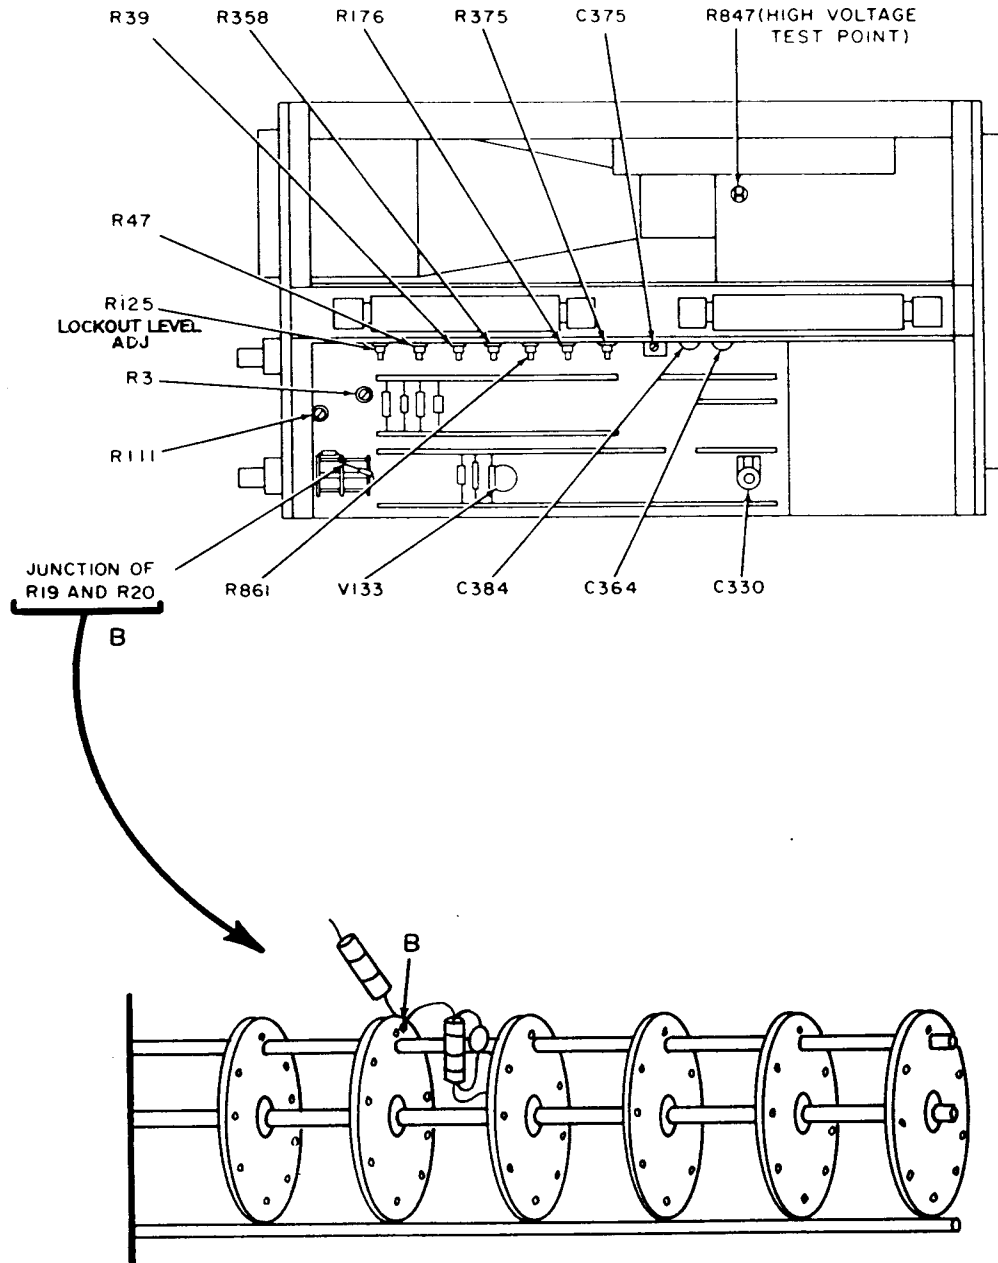

Figure 4. Oscilloscope - top view (545A) and right side RM45A.
(5) Adjust TI HORIZONTAL and VERTICAL POSITION controls to align display with vertical graticule lines and calibration adapter VARIABLE control until rising and falling portion of display are visible. If vertical lines are not straight, perform **b** below.
**b. Adjustments.** Adjust GEOMETRY R861 (fig. 4) for minimum curvature of vertical lines.
(4) Connect junction of R19 and R20 (fig. 4) to chassis ground, using lead and adapter (B7 and B1).
(6) Turn TI TRIG SENS R47 (fig. 4) control fully counterclockwise and TRIG LEVEL CENTERING R39 (fig. 4) control fully clockwise.
(7) Turn TI STABILITY control counterclockwise until waveform just disappears and then two or three degrees farther.
(8) Turn TI TRIG LEVEL CENTERING R39 counterclockwise until waveform reappears. If waveform does not reappear, turn TRIG SENS R47 clockwise a few degrees and readjust R39 until waveform appears.
(9) Turn TI TRIGGER SLOPE switch from +INT to -INT and back to +INT. Adjust TRIG LEVEL CENTERING R39 and TRIG SENS R47 to obtain a stable waveform in both positions.
(10) Turn TI TRIGGERING MODE switch to DC and calibration adapter VARIABLE control for 3 minor divisions of crt display.
(11) Turn TI TRIGGER SLOPE switch from +INT to -INT and back to +INT. If waveform does not invert and remain stable in both positions adjust INT TRIG DC LEVEL R3 (fig. 4) until stable waveform is obtained.
(12) Remove lead and adapter grounding the junction of R19 and R21
(13) Turn TI TRIGGERING LEVEL control until waveform is stable. If white dot on TRIGGERING LEVEL control does not point to zero (0), loosen setscrew on TRIGGERING LEVEL control and turn knob until white dot is aligned.
(14) Tighten setscrew and remove connection to calibration adapter INPUT.
(15) Position TI controls as listed in **(a)** through **(c)** below:
(16) Connect ac/dc voltmeter (A1) between TI PRESET ADJUST wiper arm R111 (fig. 4) and chassis ground, using leads supplied with (A1) or two adapters and two leads (B1 and B7).
(17) Turn TI PRESET ADJUST fully counterclockwise and then slowly clockwise until trace just appears. Record ac/dc voltmeter indication.
(18) Turn TI PRESET ADJUST control clockwise a few degrees farther until trace brightens. Record ac/dc voltmeter indication.
(19) Turn TI PRESET ADJUST control to obtain an indication on ac/dc voltmeter midway between indications recorded in (17) and (18) above.
(18) Turn TI PRESET ADJUST control fully counterclockwise (trace will disappear) and then clockwise until trace just appears on crt. Record ac/dc voltmeter indication.
(19) Turn PRESET ADJUST control clockwise until trace brightens. Record ac/dc voltmeter indication.
(20) Turn TI PRESET ADJUST wiper arm R111 (fig. 4) to obtain an indication on ac/dc voltmeter midway between indications recorded in (18) and (19) above.
(1) Adjust MAG GAIN R375 (fig. 4) for one marker per major vertical graticule division on crt (R).
(2) Adjust NORM MAG REGIS R358 (fig. 4) to align first time marker directly behind center graticule line (R).